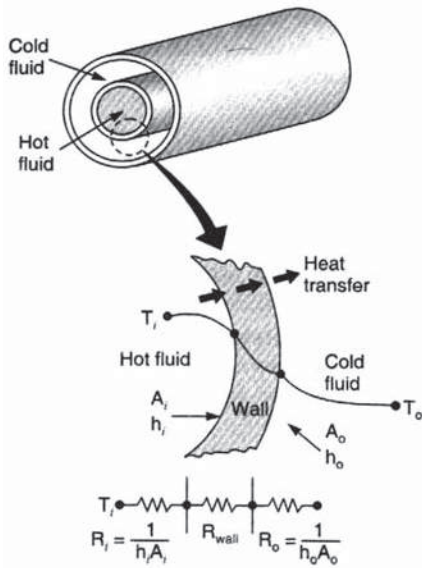

Fig. 10: Thermal resistance for a double pipe heat exchanger
Normally, a heat exchanger involves two flowing fluids separated by a solid wall. The heat transfer rate is dependent on a quantity called overall heat transfer coefficient (U). The determination of U is the most difficult part in case of heat exchanger. It depends upon the heat transfer coefficients of the fluids on both sides of the wall (h_i and h_o) and also on the thermal conductivity of the wall in addition to geometrical dimensions of the heat exchanger. The flow and the thermal resistance between the two fluids in a double pipe heat exchanger have been shown in Fig. 10. The total